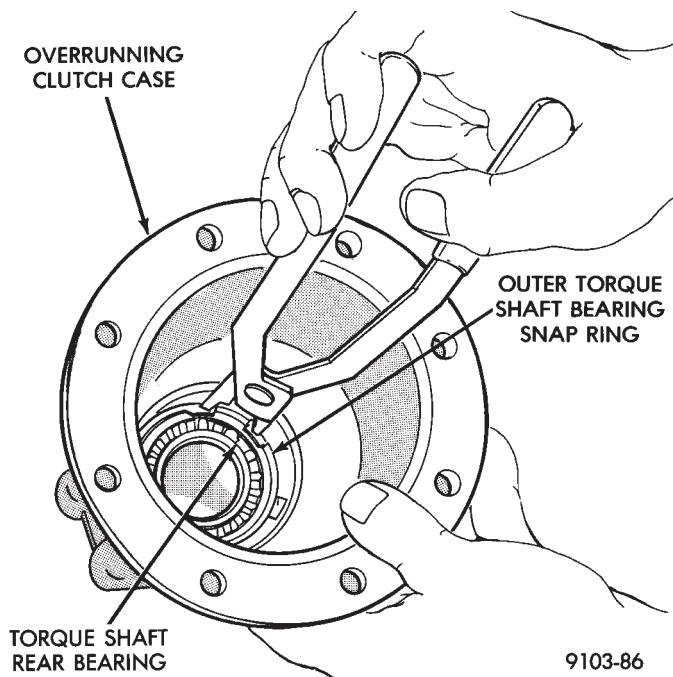
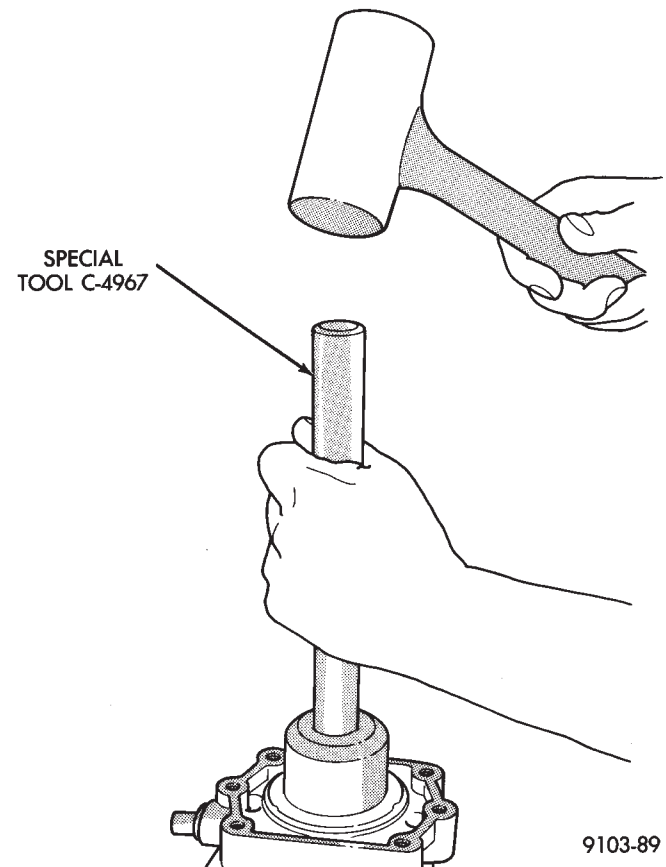

Fig. 22 Torque Shaft Rear Bearing Snap Ring
Fig. 23 Seal Removal
- (11) Separate overrunning clutch case from torque tube.
- (12) Remove rear bearing retaining snap ring in overrunning clutch case (Fig. 22).
- (13) Remove rear torque shaft bearing.
- (14) Drive out front overrunning clutch seal with special tool C-4967 (Fig. 23).